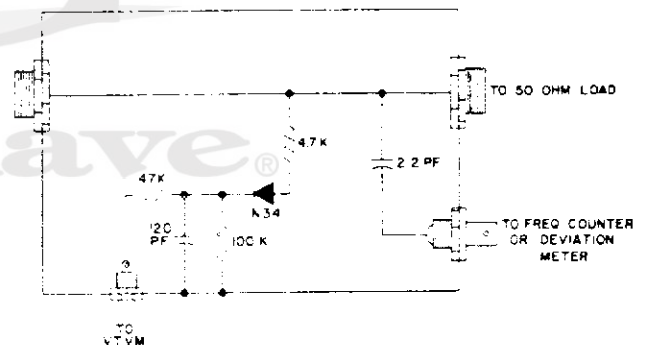

Figure 4-7. Relative Output Indicator
2. Attach a 50-ohm power meter, or a relative output indicating device (Figure 4-7), to transceiver antenna connector.
2. With a crystal installed and channel switch in corresponding position, connect a frequency-indicating device to transceiver --- either by loop coupling to final power stage or, by connecting to jack on relative output device (Figure 4-7).
1. Connect unit to relative output indicating device (Figure 4-7); then, connect a Deviation Meter to "Freq. Counter/Deviation Meter" output of the relative output indicator.